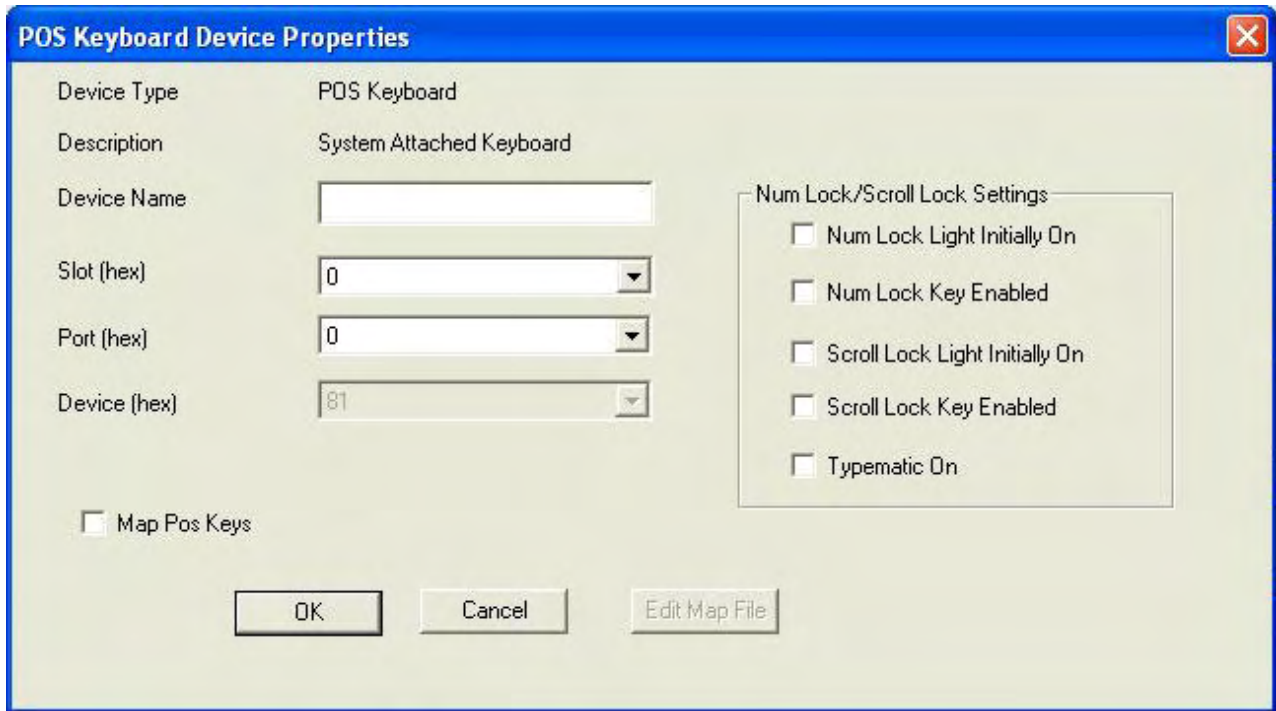

Figure 27. Keyboard properties dialog
1. Select a POS keyboard entry and click **Configure**. The keyboard configuration dialog is displayed (see Figure 27 on page 151).